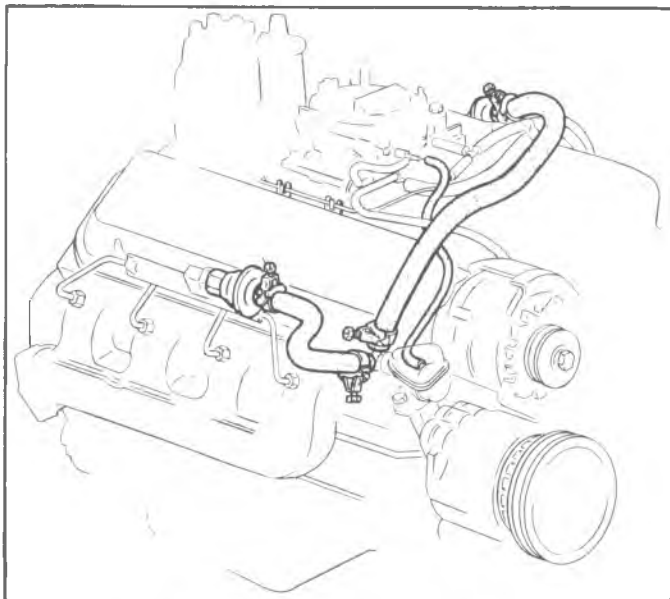

Fig. 17f—Mark IV V8 A.I.R. Hoses
- Check all tube and hose routing (fig. 17f and 18f). Interference may cause wear.